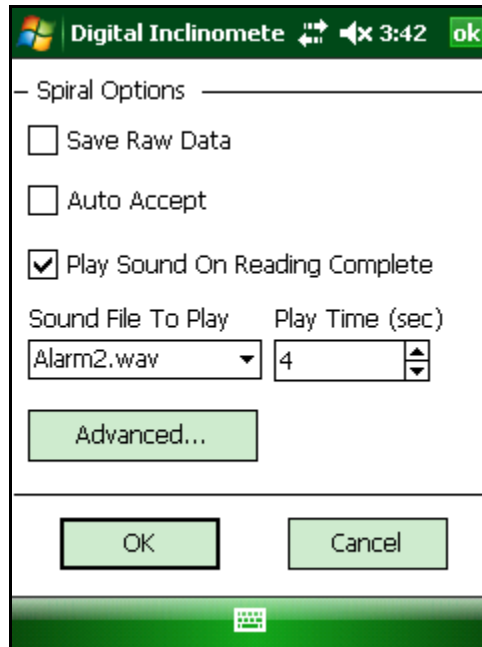

Figure 12 – Spiral Options
- The software displays the spiral readings directly in degrees. Logging the spiral data is done in a similar manner as an inclinometer survey. To begin the survey, push *Start* button. The initial position is then measured. *Accept* button needs to be pressed when in manual mode. In *Auto Accept* mode, the probe will sense movements and the reading will be taken automatically without the need to press any buttons. The reading mode can be changed on Options screen, shown in Figure 12.